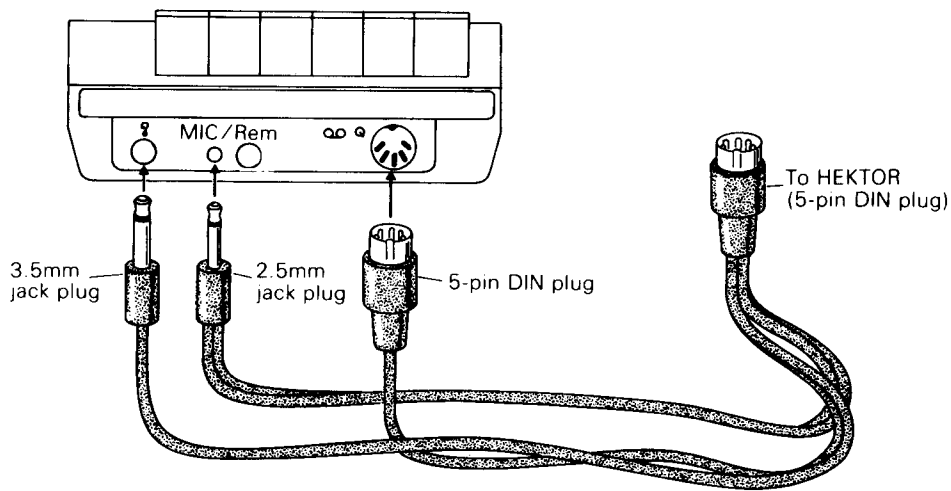

Figure 3.1 Cables and plugs supplied with HEKTOR
- A cable for connecting HEKTOR to a TV set. It is a single cable with a coaxial connector on one end and a 'phono' type connector on the other end (see Figure 3.1).
- Cables for connecting HEKTOR to a cassette recorder. There is a single 5-pin DIN plug at one end and 3 plugs at the other end (see Figure 3.1).
Check that the TV you intend to use with HEKTOR will receive the normal broadcast signals. Switch off, and disconnect the usual aerial cable from the aerial socket on the TV. With HEKTOR also switched off, plug the coaxial plug (see Figure 3.1) on the TV cable supplied into the aerial socket on your TV, and plug the phono plug on the other end of the cable into the socket marked 'TV' on the back of the HEKTOR case. (The second socket on the case is for a TV monitor, not a conventional receiver.)
First connect the appropriate one of the two 5-pin DIN plugs (Figure 3.1) to the DIN socket on the left-hand side of HEKTOR labelled 'TAPE'. The three remaining plugs on the cable go to the cassette recorder for (a) recording, (b) playback and (c) remote control of the motor. Use Figure 3.1 to identify the appropriate plug for each purpose, and then Figure 3.2 to identify the corresponding socket on the cassette recorder.